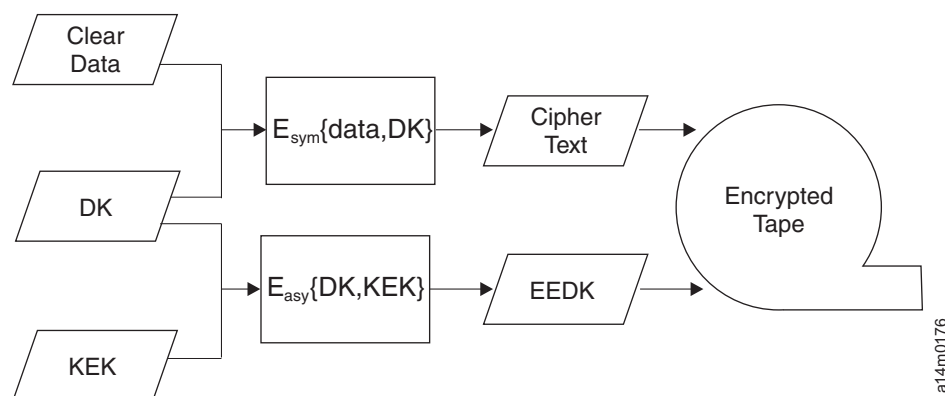

Figure 6: Encryption with both symmetric and asymmetric encryption keys
In system-managed and library-managed tape encryption, unencrypted data (clear text) is sent to the tape drive and converted to ciphertext with a symmetric 256-bit AES Data Key (DK) generated by the encryption key server. The ciphertext is then written to tape. The encryption key server uses a single, unique data key for each 3592 tape cartridge. This data key is also encrypted, or wrapped, by the encryption key server with the public key from an asymmetric Key Encrypting Key (KEK) pair. This process creates an Externally Encrypted Data Key (EEDK). The EEDK is written to the cartridge memory and to three more places on the tape media in the cartridge. The tape cartridge now holds both the encrypted data and the means to decrypt it for anyone that is holding the private part of the KEK pair. Figure 6 on page 19 illustrates this process.